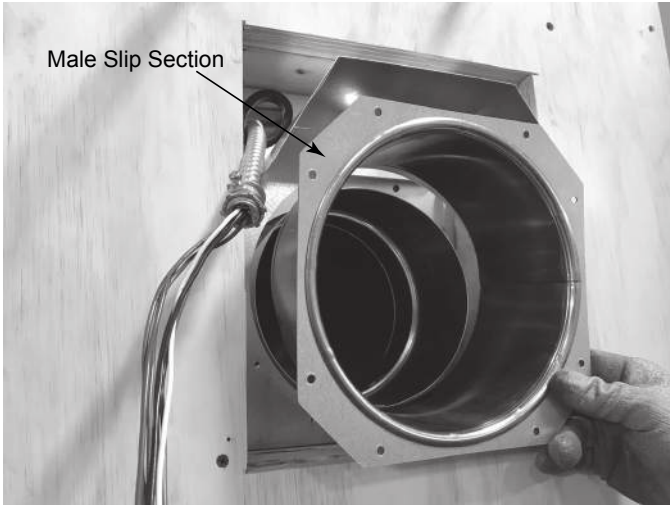

Figure 7.13
- Insert the male slip section into the female slip section. See Figure 7.13.